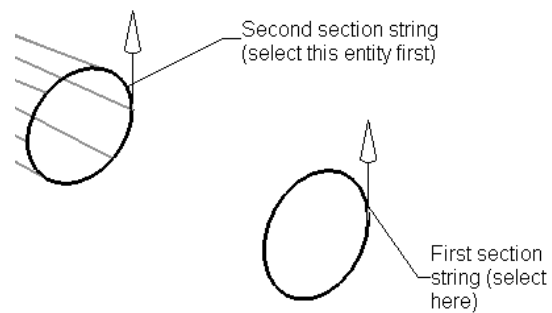

Figure 11-98 The resulting ruled surface created after selecting both cross-sections
4. Select the first section string, as shown in Figure 11-98. Next, press the middle mouse button; you are prompted to select the second section string.
5. Select the second section string, which is the edge of the surface created earlier, as shown in Figure 11-98. Note that the arrows should point in the same direction. Choose the **OK** button; the ruled surface is created.